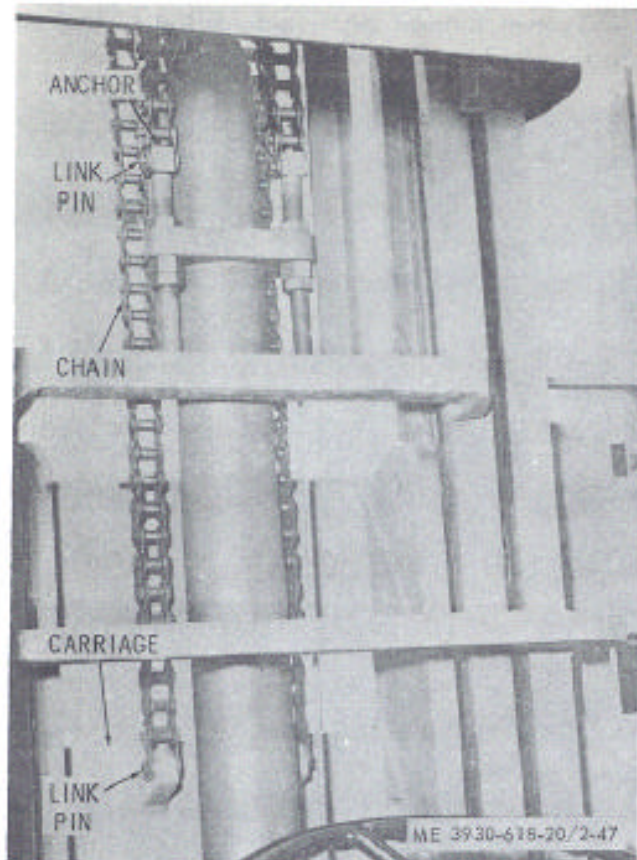

Figure 2-47. Lift chain, installed view.
a. Removal. The chains are attached at one end to anchors on the lift cylinder and at the other end to anchors on the carriage assembly; Refer to figure 2-47 and remove the chain as follows:
- (1) Lower the mast to its lower limits.
- (2) Attach a hoist to the carriage to relieve the tension on the chains.
- (3) Remove the cotter pins and chain links from the anchors on the carriage assembly.
- (4) Remove the cotter pins and chain links from the anchors on the lift cylinder.
- (5) The chains are then free for removal.